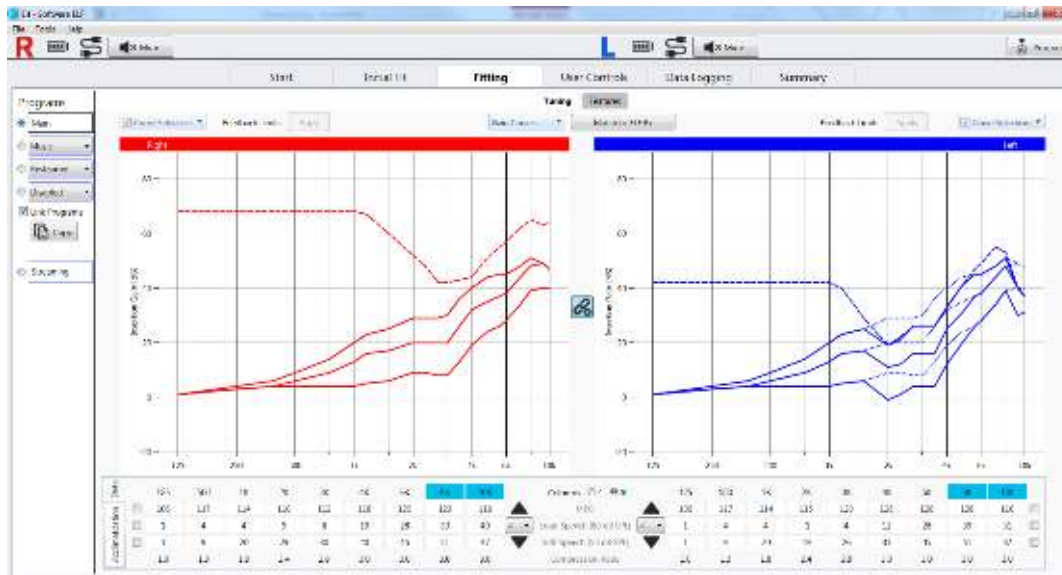

Figure 22. Fine Tuning: Gain Curves displaying maximum stable gain data and feedback limits applied for the left ear
- ELF will measure the maximum gain before feedback by presenting a stimulus at a known level and measuring the response level and phase at the microphone. Results can be viewed in the Tuning tab, in the Fitting screen, by selecting the Gain Display option (Figure 22).